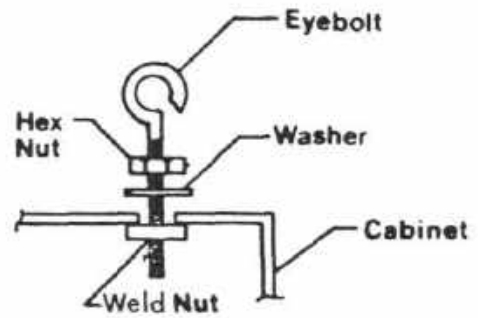

FIG. 2
- 3) Install eyebolts in cabinet top as shown in Fig. 2.